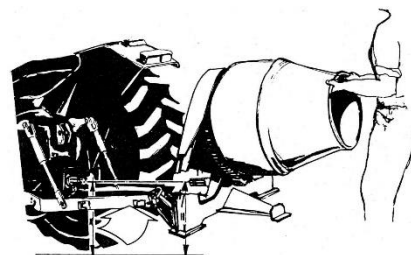

Fig 1
2. Raise the three-point linkage, steadying the mixer by hand, until the input shaft is in-line with the power take-off. (fig 1)